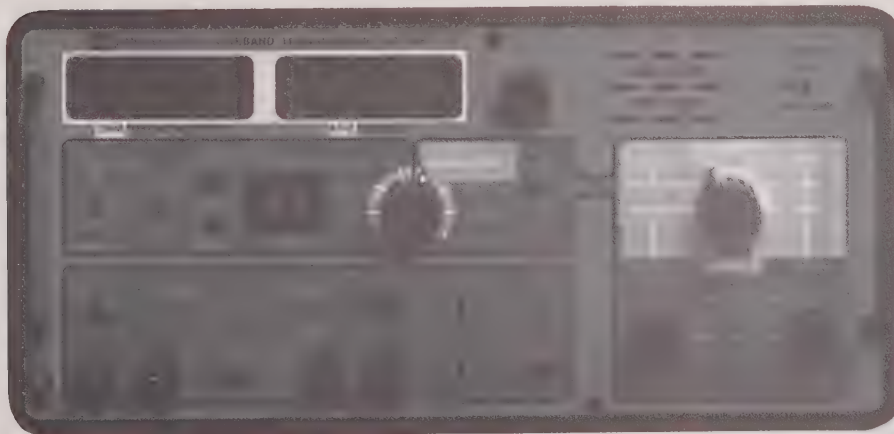

Figure 6. Receive Level and Frequency Measurements
5.02 Overrange and underange condition indicators are provided to alert the operator when the level and/or frequency of the signal being measured exceeds the measurement capacities of the Model 43-01. Refer to Figure 6 while performing the procedures in this section.